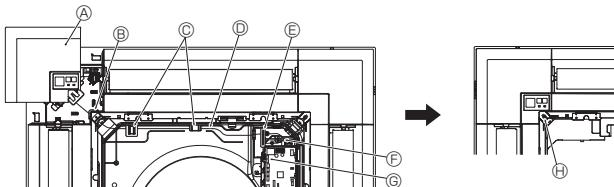

Fig. 9-9
9.4.5. Instalar o receptor de sinal (Fig. 9-9)